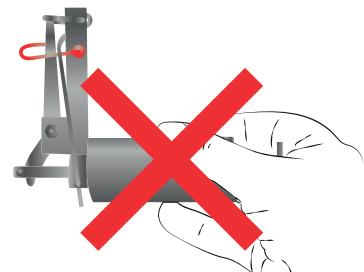

FIG. 2
- Keep the product and ammunition locked and out of reach of children. Persons under 18 years of age are not permitted to use the product. Store the product and ammunition separately. Never point the loaded device at your body or other people. Never place your hand over the muzzle! See Figure 2.